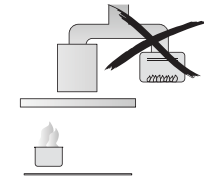

Fig. 1
- The exhaust from the rangehood must not be discharged into any heating flue, which may carry combustion products from other sources.(Fig.1)